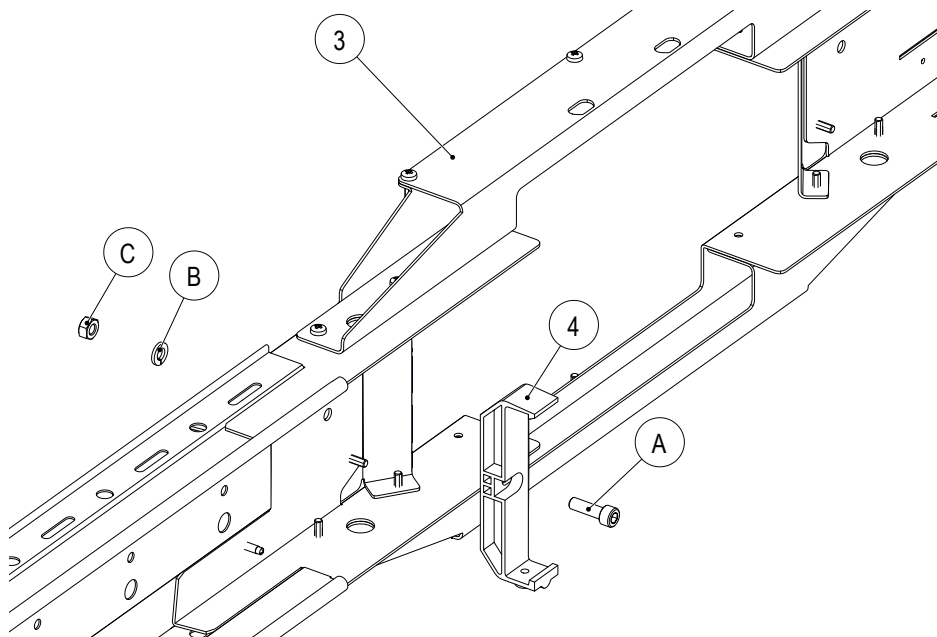
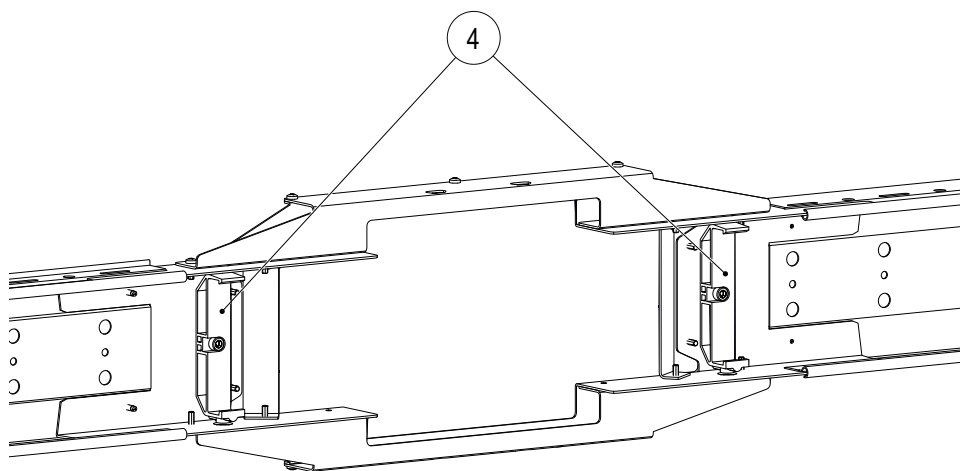

Fig. 73: Install anchor point (4) on fastening frame (3)
Fig. 74: Anchor points (4) are installed
1. If the anchor points (4) are not yet installed on the fastening frame (3), they must first be installed using the screw connections (A, B and C) (see Fig. 73 and Fig. 74).
- The anchor points are installed on the right and left of the fastening frame (see Fig. 73 and Fig. 74)
- The anchor points are installed on the fastening frame of the line feed (see Fig. 73) and the conductor rails are completely hung.